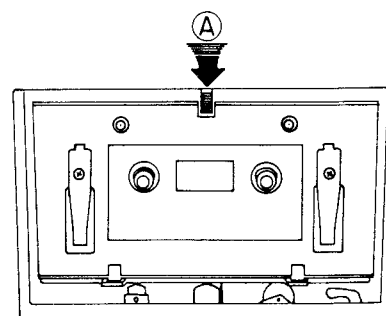

Fig. 5-5 Switch Arm Location
2. Press the Switch Arm (A) shown in Fig. 5-5 so that the CASSETTE IN Switch (S509) (see Fig. 5-11) will activate.